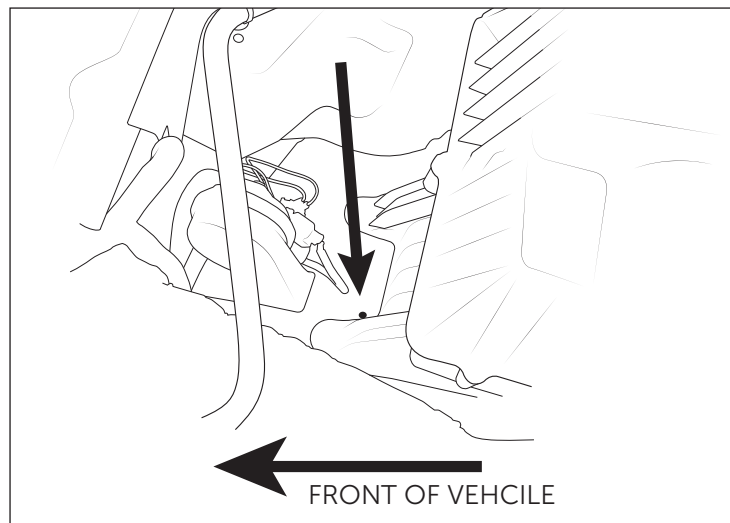

Figure 13
3. Install supplied bolt through the tab at the bottom of the bracket into the existing hole shown and secure with supplied flange nut (fig. 13).